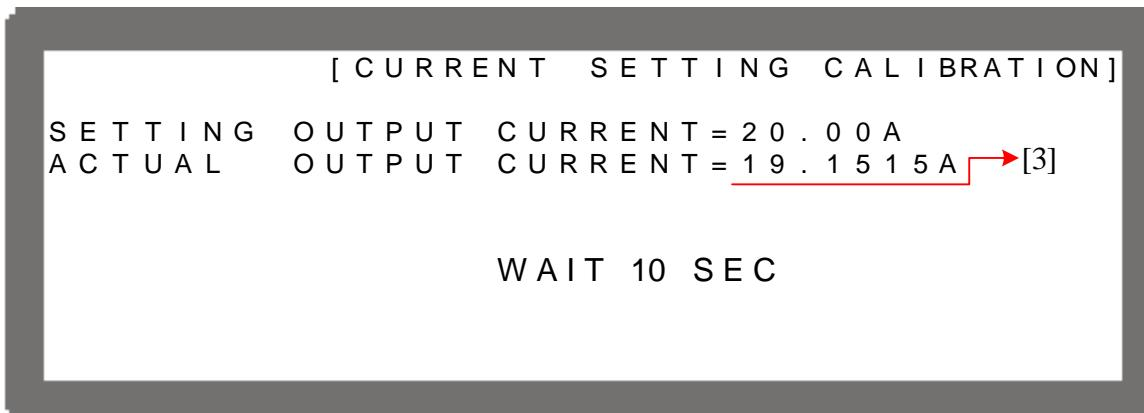

Figure 3-114
9. Press “” will perform 20A calibration. The system will set the output current to 20.00A automatically and appear second reading screen. Once the reading is done, the cursor will stop at position [3] as Figure 3-114 shows. Input the current (4 digits after decimal point) read by Current Shunt (DVM) and press “” to confirm.